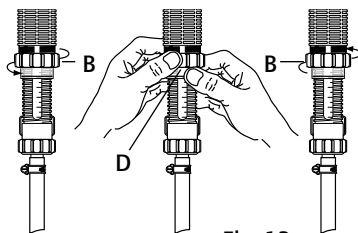

Fig. 13
- Unscrew the blocking nut (Fig. 13-B).
- Keep it fixed while screwing or unscrewing the transparent ring (Fig. 13-D).
- Tighten the blocking nut (Fig. 13-B).